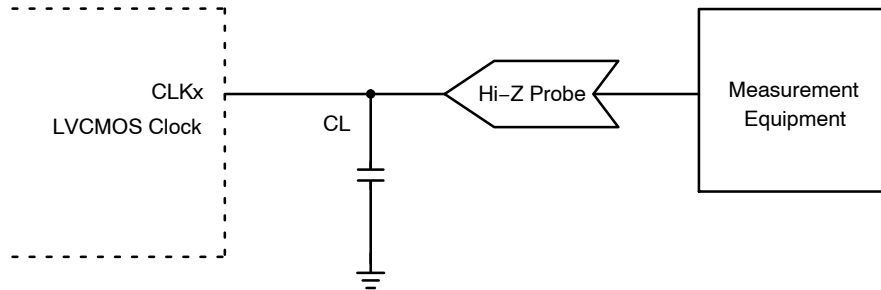

Figure 5. LVC MOS Parameter Measurement
4. Measurement taken with single ended clock outputs terminated with test load capacitance of 5 pF and 15 pF. See Figure 5. Specification for LVTTTL are valid for the $V_{DD} 3.3V$ only.
6. Measurement taken with single ended clock outputs terminated with test load capacitance of 5 pF and 15 pF. See Figure 5. Specification for LVTTTL are valid for the $V_{DD} 3.3V$ only.